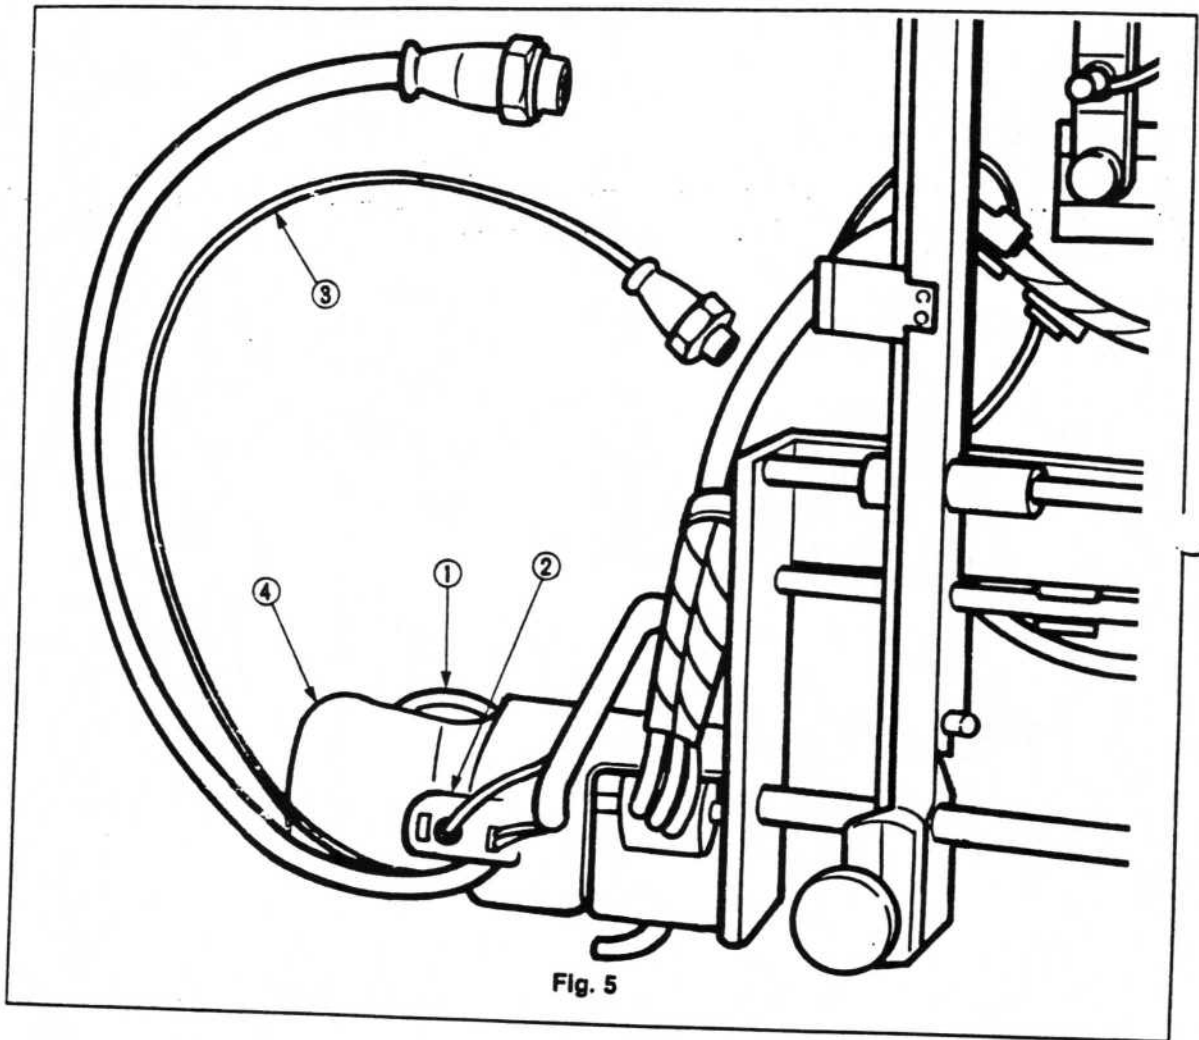

Fig. 5
4. Replace the conveyer motor assembly ① shown in Fig. 5.
Cut the band (② in Fig. 5) holding the connector for the wiring and, after removing the wiring (③ in Fig. 5) and connector for the motor, remove the bolts (x 4) holding the motor (④ in Fig. 5) and replace it.